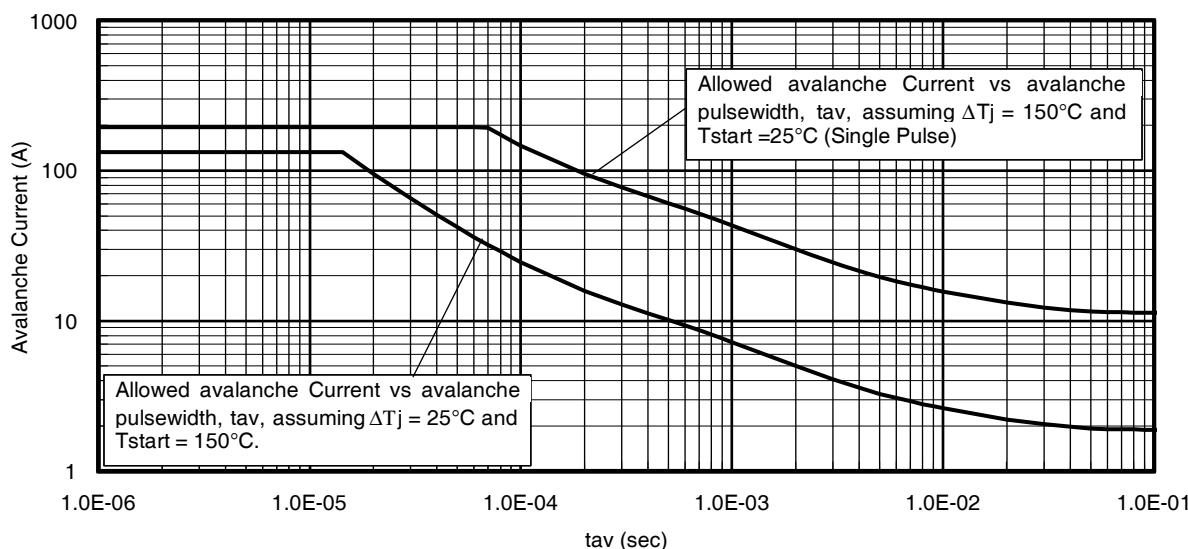

Fig 14. Avalanche Current vs.Pulse width
Notes on Repetitive Avalanche Curves , Figures 14, 15: (For further info, see AN-1005 at www.irf.com)
7. ΔT = Allowable rise in junction temperature, not to exceed T_{jmax} (assumed as 25°C in Figure 14, 15).